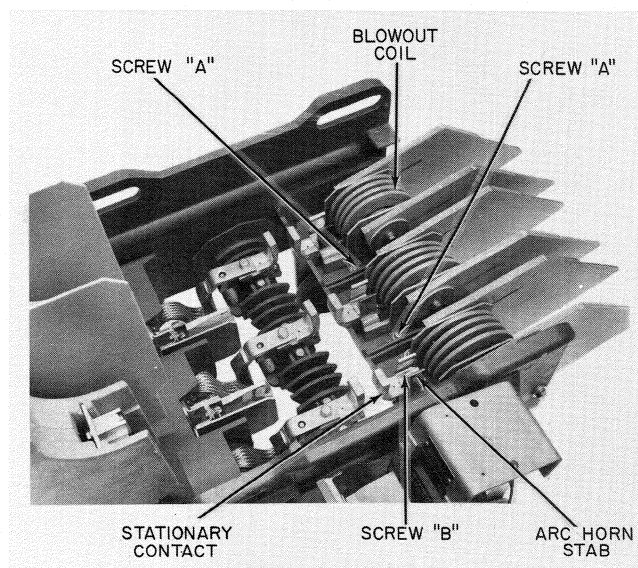

Fig. 37. Blowout base and main shaft assembly
3. Remove the blowout coil assemblies, arc horn stabs and stationary tips by removing screws "A" and "B" as shown in Fig. 37 and bolts, located below the base, that secure the blowout coil stab to the base. Care should be taken to observe how parts are assembled so that they can be reassembled properly on the new base.